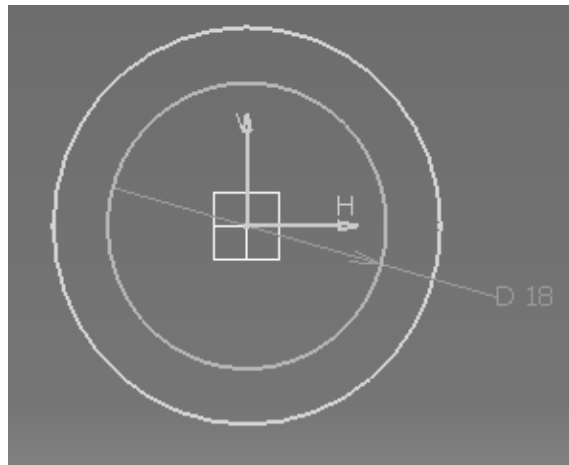

Figure 1.5
- 1.9 In the **First Limit** area enter “20mm” for the **Length** Box. Leave the **Type** box set at “**Dimension**”, as shown in figure 1.5.
- 1.10 In the **Second Limit** area, enter ”20mm” for the **Length** box, as shown in figure 1.5.
- 1.13 Create another circle at the Coordinates (0,0) with a diameter of 18 (Figure 1.5).
- 1.25 Create a circle at the coordinates (0,0) with a diameter of **18mm**, as shown in figure 1.5